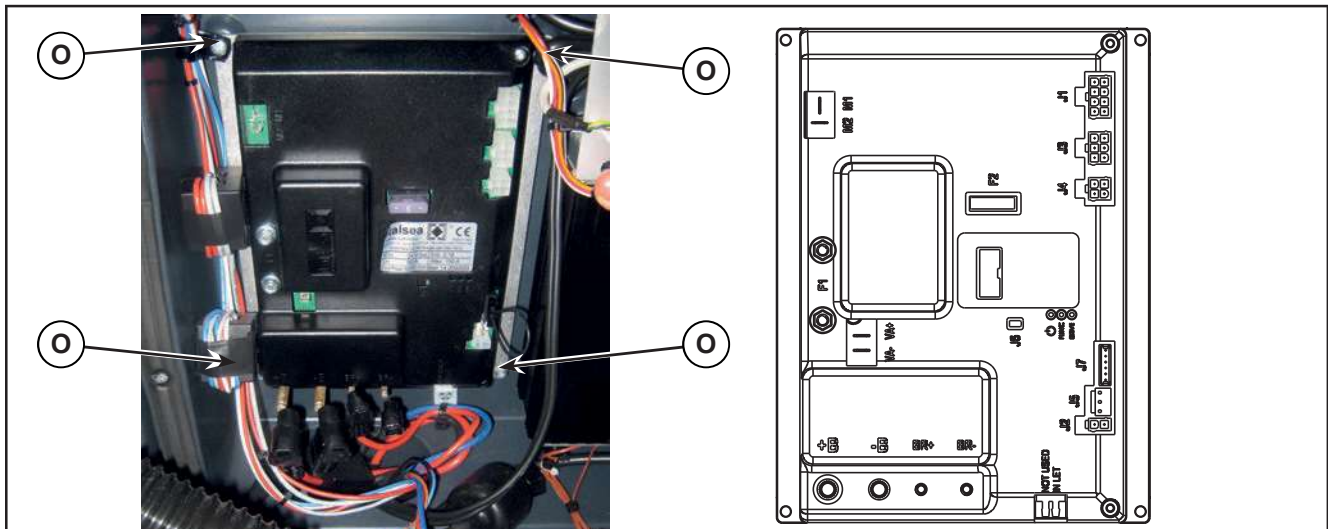

Figure 14:
7. Unscrew the 4 retaining screws (O) and carefully remove the Main machine controller (Figure 14).